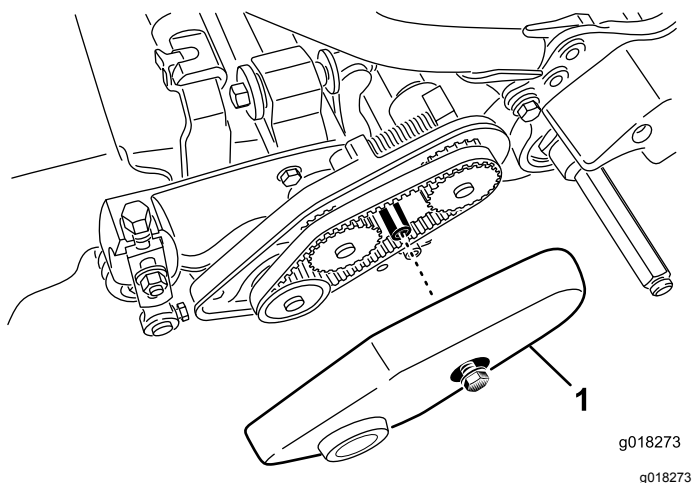

Figure 44
2. Loosen the flange bolt that secures the belt cover and remove the belt cover to expose the belt (Figure 44).